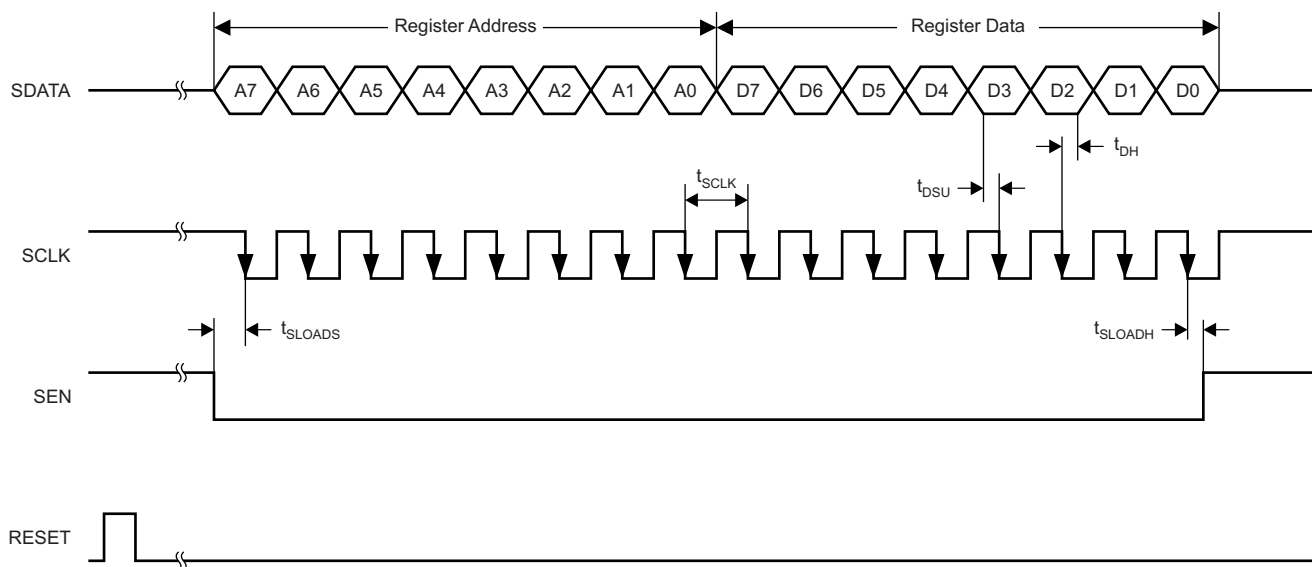

Figure 42. Serial Interface Timing
1. Either through a hardware reset by applying a high pulse on the RESET pin (of widths greater than 10 ns), as shown in Figure 42; or
Table 3. Timing Characteristics for Figure 42